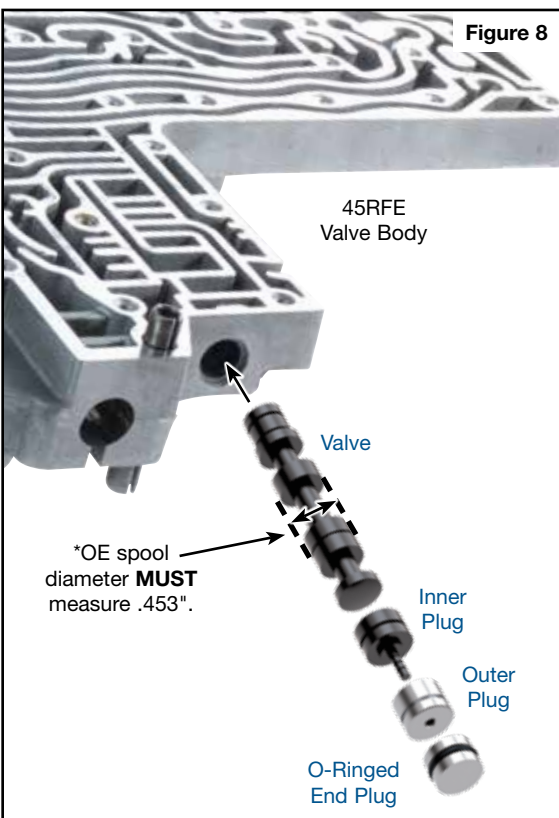

Figure 8
WARNING: Measure large spool diameter on OE switch valve (Figure 8) to verify which Sonnax part will fit the unit being repaired. Some Chrysler switch valves measure .420" dia. and others .453" dia. Another third version found in "late" anodized valve bodies have a .453" dia. but with a narrower spool and incorporates an ID groove. If you have the .420" dia valve, you need to confirm you have the **SC-RFE-420** Sure Cure Kit. If you have the .453" dia. valve confirm you have the **SC-RFE-453** Sure Cure kit.
- Install Sonnax solenoid switch valve, small diameter first (Figure 8).
- Insert O-ringed end plug into bore, nub facing inward (Figure 8 & 9).